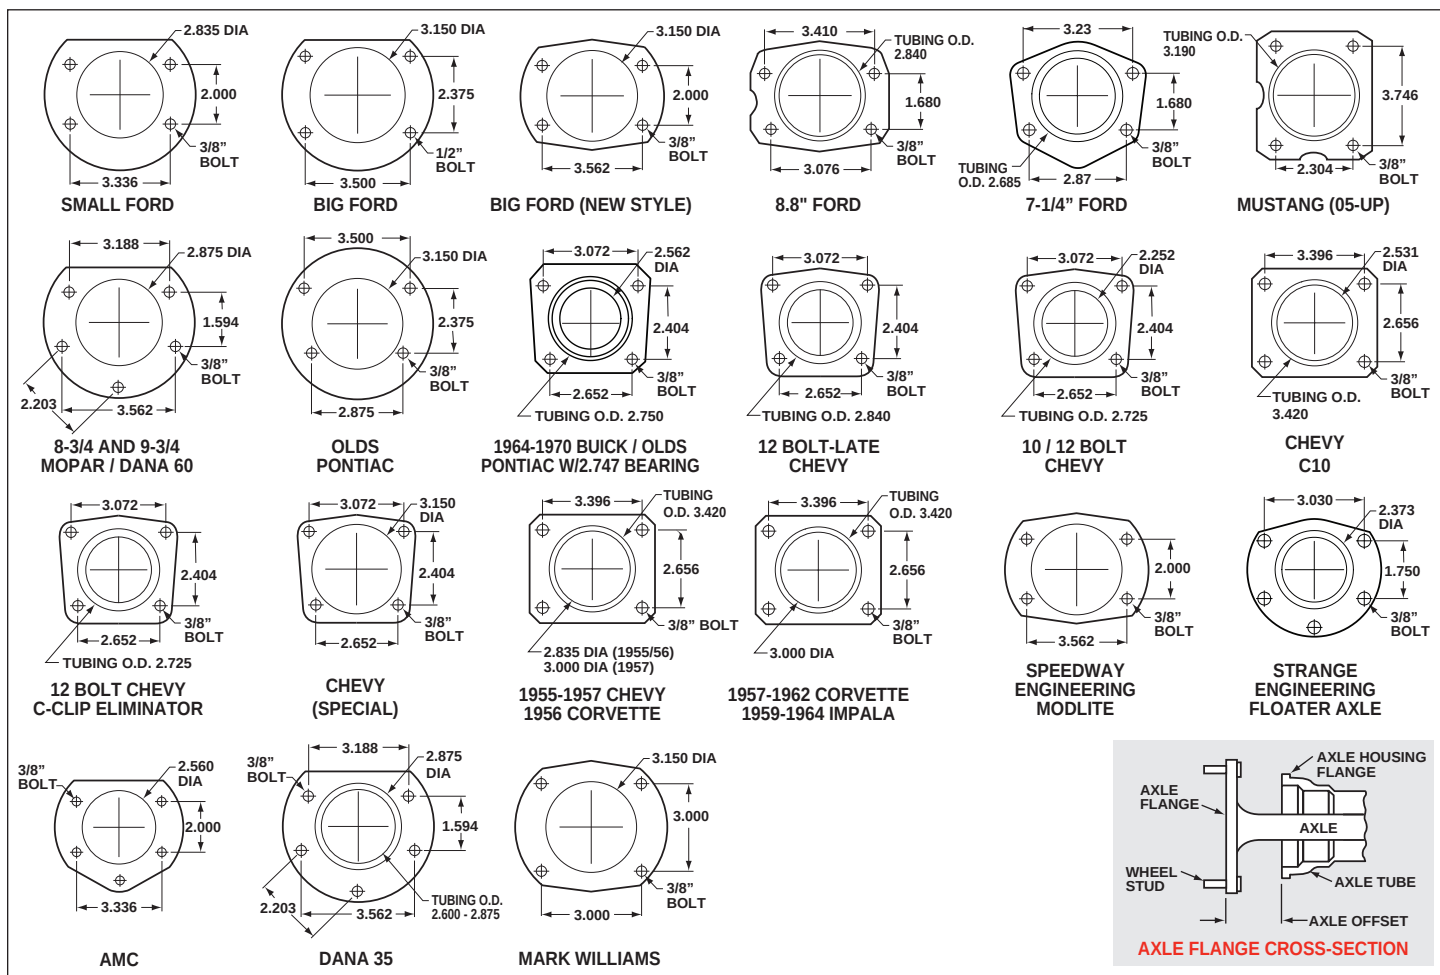

Figure 6. Rear Housing Flange Chart and Axle Flange / Offset Cross-Section
• Make sure this is the correct kit to fit your axle housing flange and axle offset. Multiple rear axle assemblies were available on 1966-77 Ford Broncos. Using Figure 6, check that your rear axle matches the description on page 1 of these instructions (i.e. Small Bearing Ford, 2.36 Offset).
- Dimension from wheel side of axle flange to wheel side of axle housing flange (see Figure 6, lower right hand corner). This dimension is critical to ensure proper alignment of the rotor to the caliper, and should match offset given in the kit description.